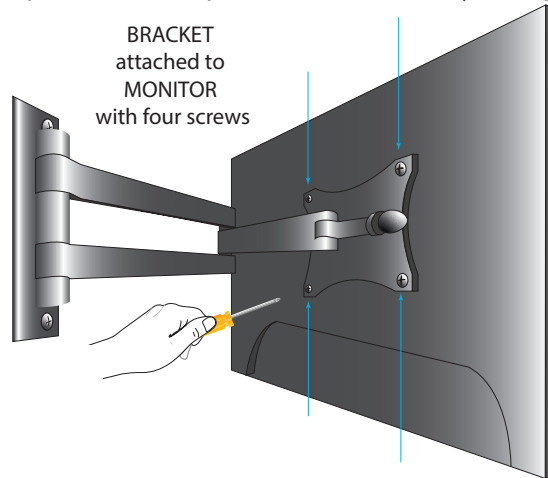

Fig. 3.3
4. Attach the monitor to the faceplate with the provided hardware (see Fig. 3.3).